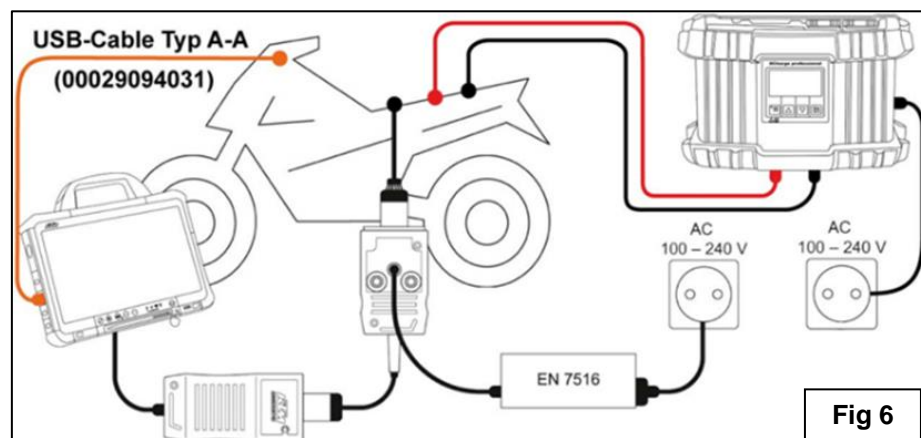

Fig 6
- a. If you have the USB drivers installed, you may proceed with connecting the orange USB cable to the third USB port (highest on left side of the XC_1 PC in Fig 6) and to the motorcycle phone compartment USB port. Follow the instructions from Step 12 in the file attachment "USB DRIVER INSTALLATION".